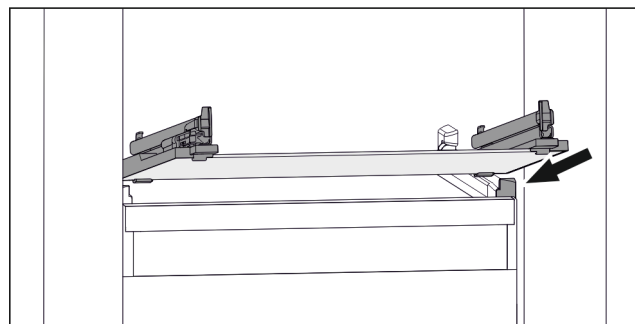

Fig. 68 Example illustration of glass shelf
- ▶ Position glass shelf at an angle behind the stoppers. (see Fig. 68)